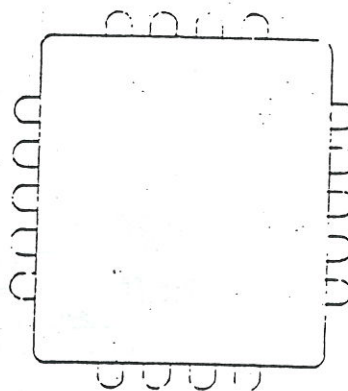

FIG. M-4
STEP 2. USING A PAIR OF TWEEZERS, POSITION THE REPLACEMENT CHIP OVER THE GLUE AND GENTLY LOWER ONTO THE GLUE, MAKING SURE THAT THE CHIP IS CENTERED ON THE PADS. REFER TO FIGURE M-4. AFTER CHIP IS ON THE BOARD, PRESS DOWN FIRMLY FOR SEVERAL SECONDS TO ALLOW GLUE TO SET AND TO MAKE SURE THE CHIP IS FLUSH AGAINST THE PADS.